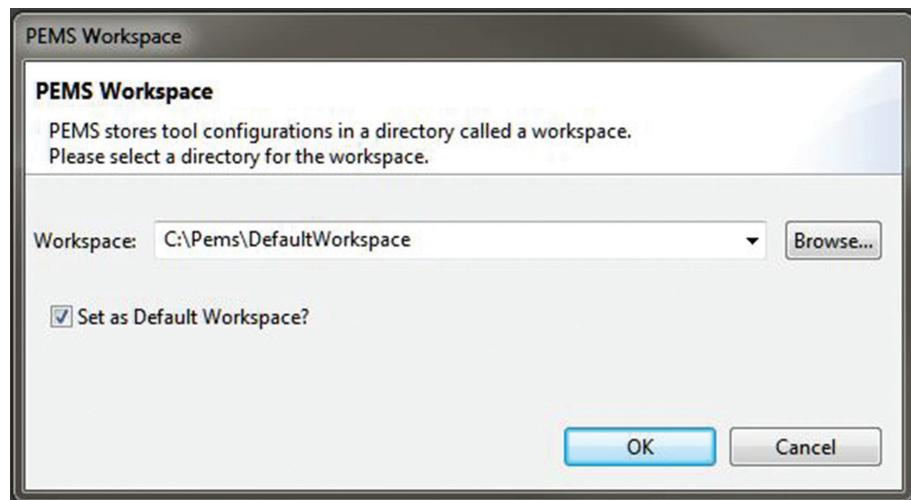

Figure 2-10 - Set the PEMS Workspace
2. Set the PEMS Workspace (NOTE: will not ask if already established). Click on Browse and navigate to a folder where you want the PEMS data to be stored. Click on "Set as Default Workspace" to retain this setting for all future jobs. See fig. 2-10